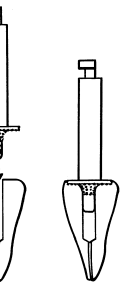
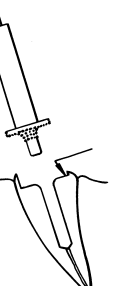

Fig. 2
Fig. 3
6. Spotface the root surface using the Diamond Bur (Zest order #8922) to a depth where a full 360 degree recessed seat first appears on the occlusal surface of the root. (Fig. 2) When making a countersunk preparation into a divergent root, the depth of the countersink will vary across the surface of the root. On the shallow side of the preparation, create the minimum possible recessed seat using the Spotface Diamond Bur. (Fig. 3)